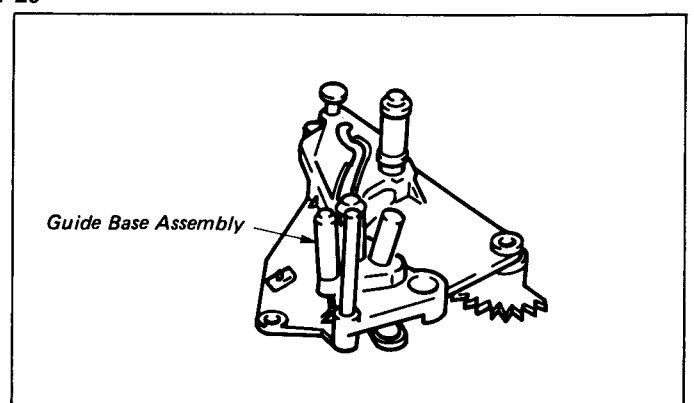

Fig. 1-31
- 2) Set the guide base assembly of the slant guide chassis assembly in an unthreading condition (with the guide base assembly moved to the control panel side) and remount it. (See Fig. 1-31.)